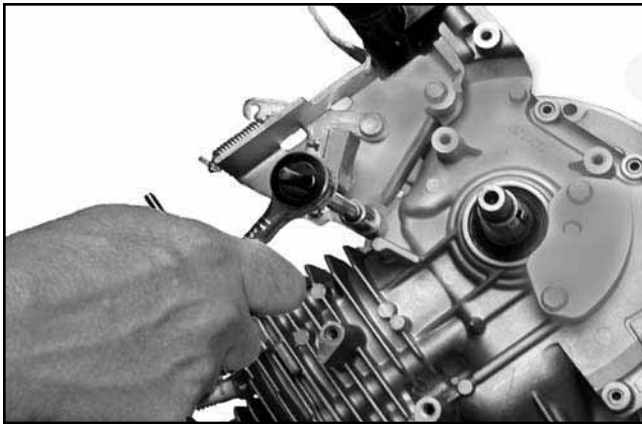

Figure 8-33. Removing Flywheel Brake Assembly.
1. Remove the two hex flange screws securing the flywheel brake assembly; retain the spacers. See Figure 8-33.